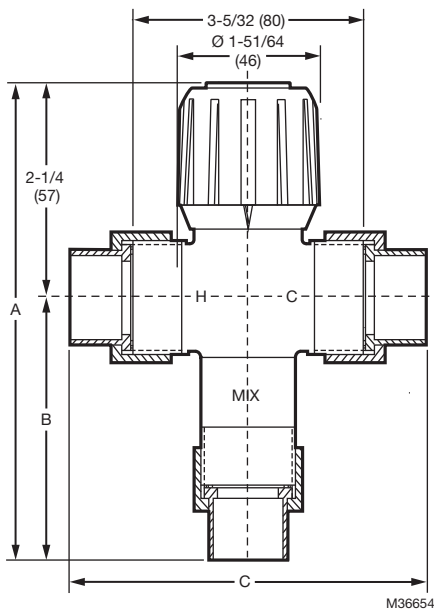

Fig. 1. Dimension Diagram.
**Dimensions:** Refer to Fig. 1.